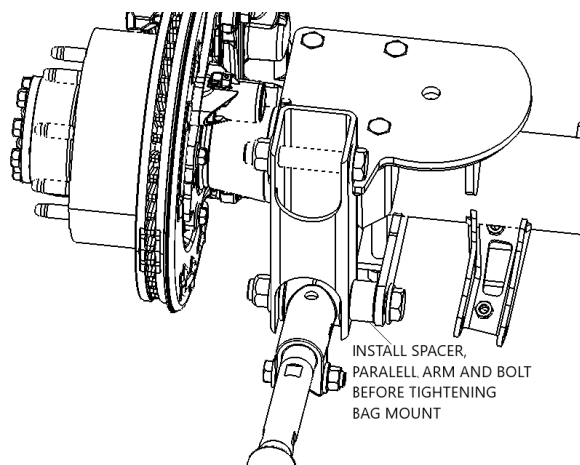

Figure 12
- 6:** Locate the lower bag mounts air bags, axle clamps and axle clamp hardware. DS lower bag mount P/N 10006347, DS axle clamps P/N 10006365 and P/N 10006422. PS lower bag mount P/N 10006369, and PS axle clamp 10006366. Locate the axle bolts in the bolt kit, locate the two 9" axle bolts and place them in the bag mounts to the rear inside hole on the PS bag mount, rear middle on the DS bag mount, to clear the sway bar when the suspension is fully extended. These shorter bolts will also use top lock nuts P/N 13126, instead of the high nuts P/N 13179. Mount the bag mounts using the factory leaf spring pad to position the bag mounts. Insert a parallel arm into the lower mount and use the mounting bolt and spacer to align the axle clamp and parallel arm mount on each side before tightening anything. See figures 12,13, 14,15 and 16.